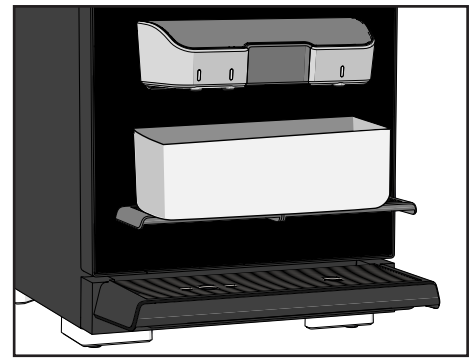

Figure 34.
4. Place a container underneath the outlet (see Figure 34).